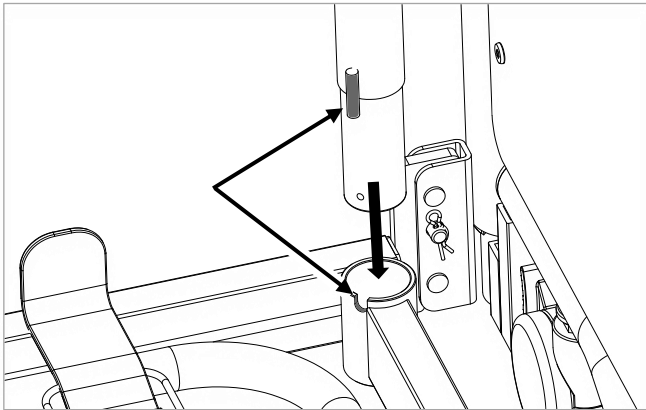

Figure 6.3
2. Insert the Lifting Pole into the fitting hole in the bed frame. Ensure that the locating pin locates in the slot on the bed tube (see Figure 6.3).